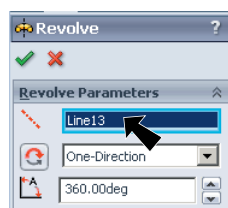
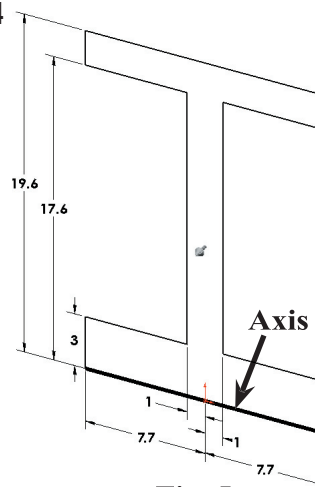

Fig. 4
Fig. 5
Step 8. Click **Revolved Boss/Base**  on the Features toolbar. For the Axis , **Fig. 4** click the **bottom line of the sketch**, **Fig. 5**. Click OK .